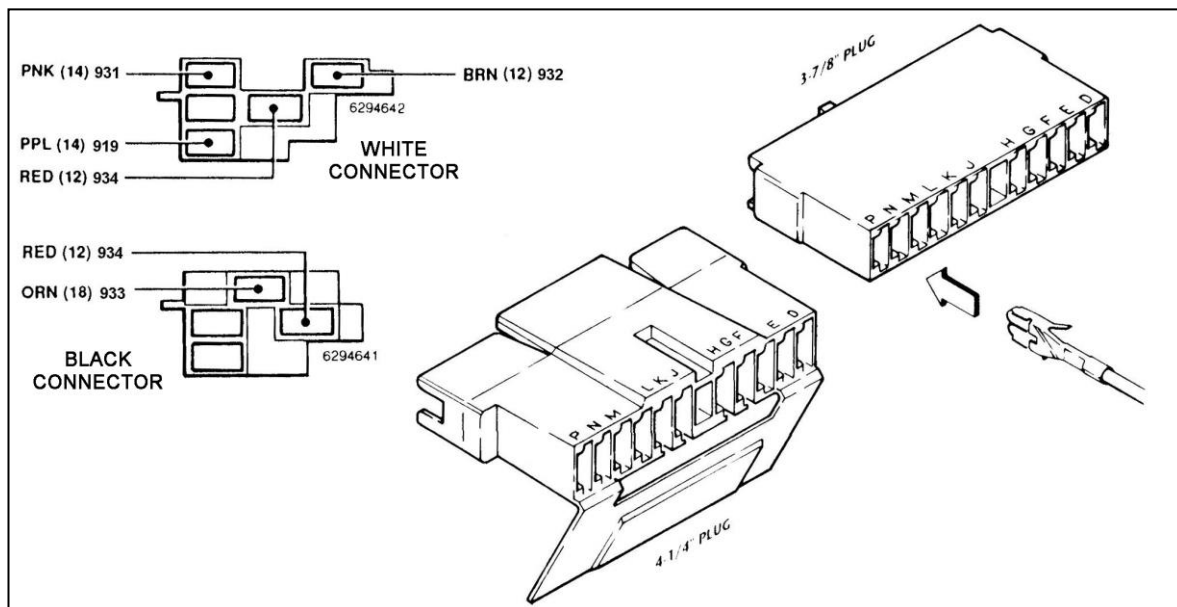

Figure 10-2 GM (column mounted) Turn Signal / Ignition Switch Connection
The TURN SIGNAL SECTION wires may have already been terminated for you. If not, cut wires to length and install the terminals provided. Choose the proper plug and install the terminals according to **Table 11-1**, as shown in **Figure 10-2**. The GM wire color codes have been included for reference. **Note:** The terminals will only insert into the connector ONE WAY, as shown in **Figure 10-2**. Make certain you are inserting the wire into the CORRECT LOCATION as the terminals are difficult if not impossible to remove once inserted.
12.0 Connecting an Ammeter and the Maxi Fuse. See Figure 10-2.